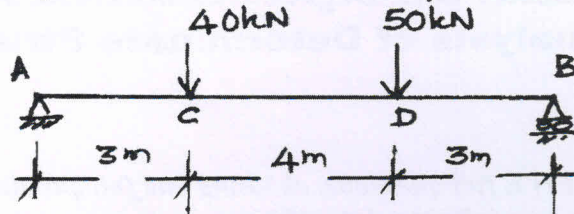

Fig.Q4(b) and Fig.Q4(c)
b. Find the ratio of deflection at C and D for the simply supported beam shown in Fig.Q4(b). Take $E = 200 \text{ GPa}$, $I = 6 \times 10^7 \text{ mm}^4$. Use Macaulay's method.
- c. Find the maximum deflection for the simply supported beam loaded as shown in Fig.Q4(c). Use moment-area method. (07 Marks)